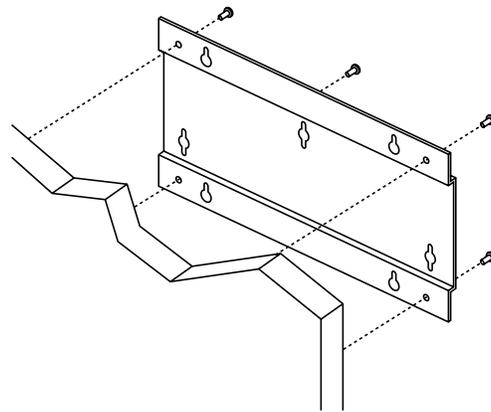

Figure 2. Permanently attaching the plate to a surface.
- To create a *permanent* attachment (refer to Figure 2): Use four tapping screws (not included) with heads large and thin enough to secure the four circular holes on the plate’s flanges without pressing against the USM, but with shafts thin enough to fit through those holes. Screw the screws through the plate flanges’ circular holes until the plate is firmly secured.